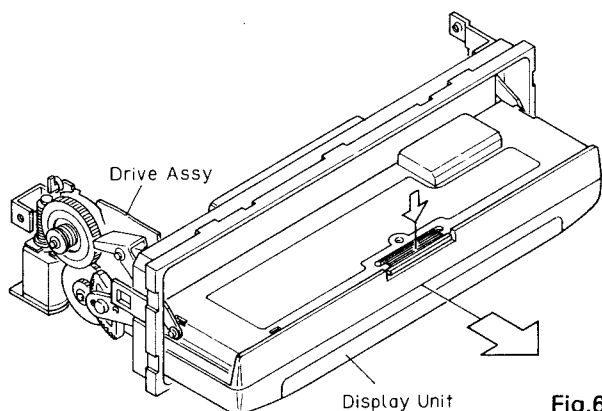

Fig.6
- 3.While holding down the lock button ,pull the display unit toward you.(Fig.6)